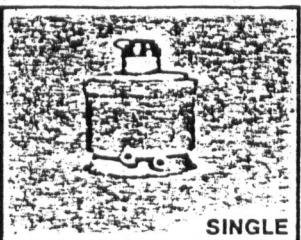
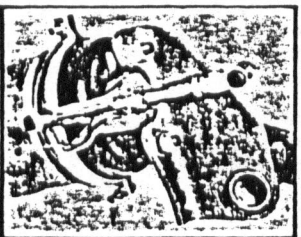

FIG. 3
FIG. 6
(3) REMOVE AND REPLACE "SINGLE" UNITS (Fig. 3)
- Follow procedure in (1).
- To facilitate easier installation, service brake push rod should be extended (either by service air pressure or manually by pushing slack adjuster). Use vise-grip pliers to lock service rod in place (Fig. 6).